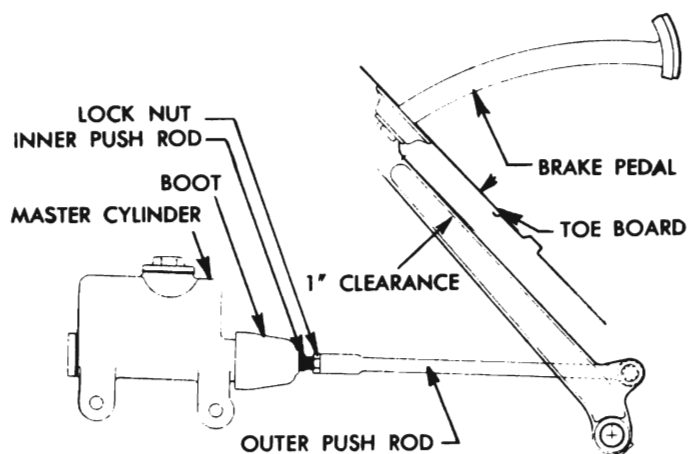

Figure 8-8—Brake Pedal Clearance Adjustment
2. Depress pedal slightly and then return it against the stop, which will be indicated by a metallic click. At this point, the clearance between brake pedal and toeboard should be 1". See figure 8-8.